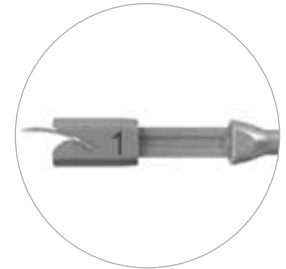

Figure 9a
- Choose the proper starter awl plate size, and remove it from its packaging. Position the starter awl impactor so that both the blue retaining pin and sliding metal encasement labeled with a #1 are oriented upwards. Grasping the starter awl plate by the silicone protective cap, fasten it to the distal end of the starter awl impactor in the orientation depicted in (Figure 9a).